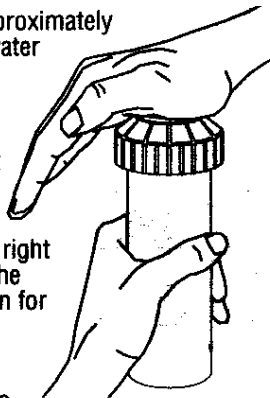

Figure 1
1. Using the palm of your hand, rotate the nozzle turret counterclockwise to the left stop to complete any interrupted rotation cycle (Fig. 1).